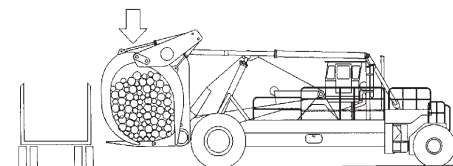

Fig. 5-9
6. With the load clear of the vehicle, back away and lower the load about 3 feet above the ground of just high enough to clear any obstructions on your way to the point of unloading. See Fig. 5-9.